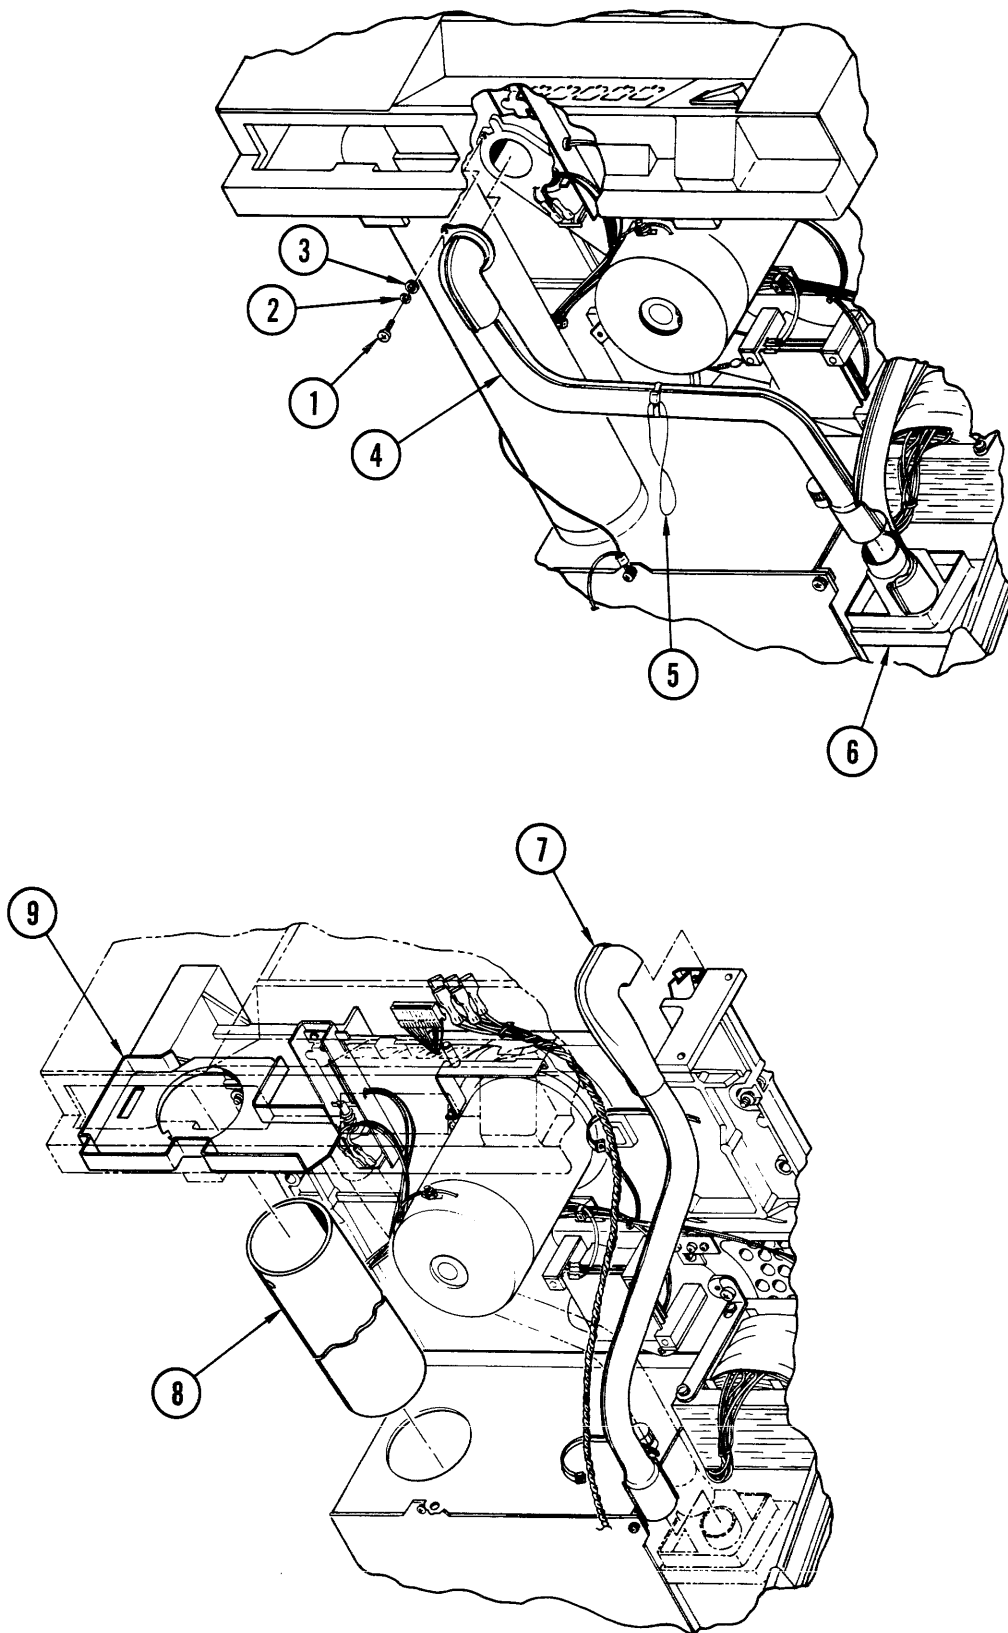

Figure 4-27. Top Plate Air Duct,
4-41. **Removal and Replacement (Figure 4-27).** Place the transport in service access position (paragraph 4-3). To replace the top-plate air duct, proceed as follows:
4-42. **Front Panel Air Duct (Figure 4-27).** Replace the front panel air duct as follows:
- 4-43. **Air Intake Tube. (Figure 4-27).** Replace the air intake tube as follows:
- c. Remove air intake tube (8) from power supply case by depressing tube slightly at hole (bottom of tube) to disengage tooth and slide forward into front panel adapter (9).
4-45. **Disassembly, Removal and Replacement (Figure 4-27).** To disassemble hub lock assembly and remove parts from top plate and supply motor, proceed as follows:
- c. Remove wire terminals from solenoid (3, Figure 4-27) and identify for reassembly.
- d. Remove two screws (1), and lockwashers (2), and remove solenoid (3) from top plate and spring (4) and washer (16) from solenoid plunger (5).
- e. If plunger (5) or bellcrank (8) must be replaced, remove supply motor in accordance with instructions in paragraph 4-44. Remove retaining ring (7) and bellcrank (8) from motor, and press out pin (6), releasing plunger (5).
4-47. **Manual Unlock Assembly (Hub Lock) (Figure 4-27).** To replace the manual unlock assembly or one of its parts, proceed as follows:
- b. Remove manual unlock assembly from top plate by removing two screws (9, Figure 4-27) and lockwashers (10).
- c. Remove pin (14) from bracket (15) by removing screw (11), lockwasher (12), and flatwasher (13).